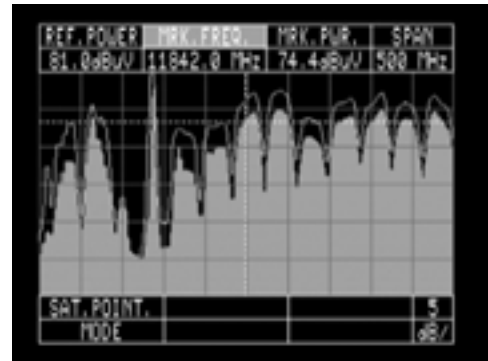

Fig.5 MAX HOLD function, peak memory
- j) At this point, return to 5 dB/div., you could also press the MENU key and activate MAX HOLD, bringing it to ON, press MENU again to remove the descriptions. MAX HOLD function shows in white the spectrum at the maximum peak measured. You can therefore check that the pointing is actually at the maximum (this is a fast and precise system, see fig. 5).